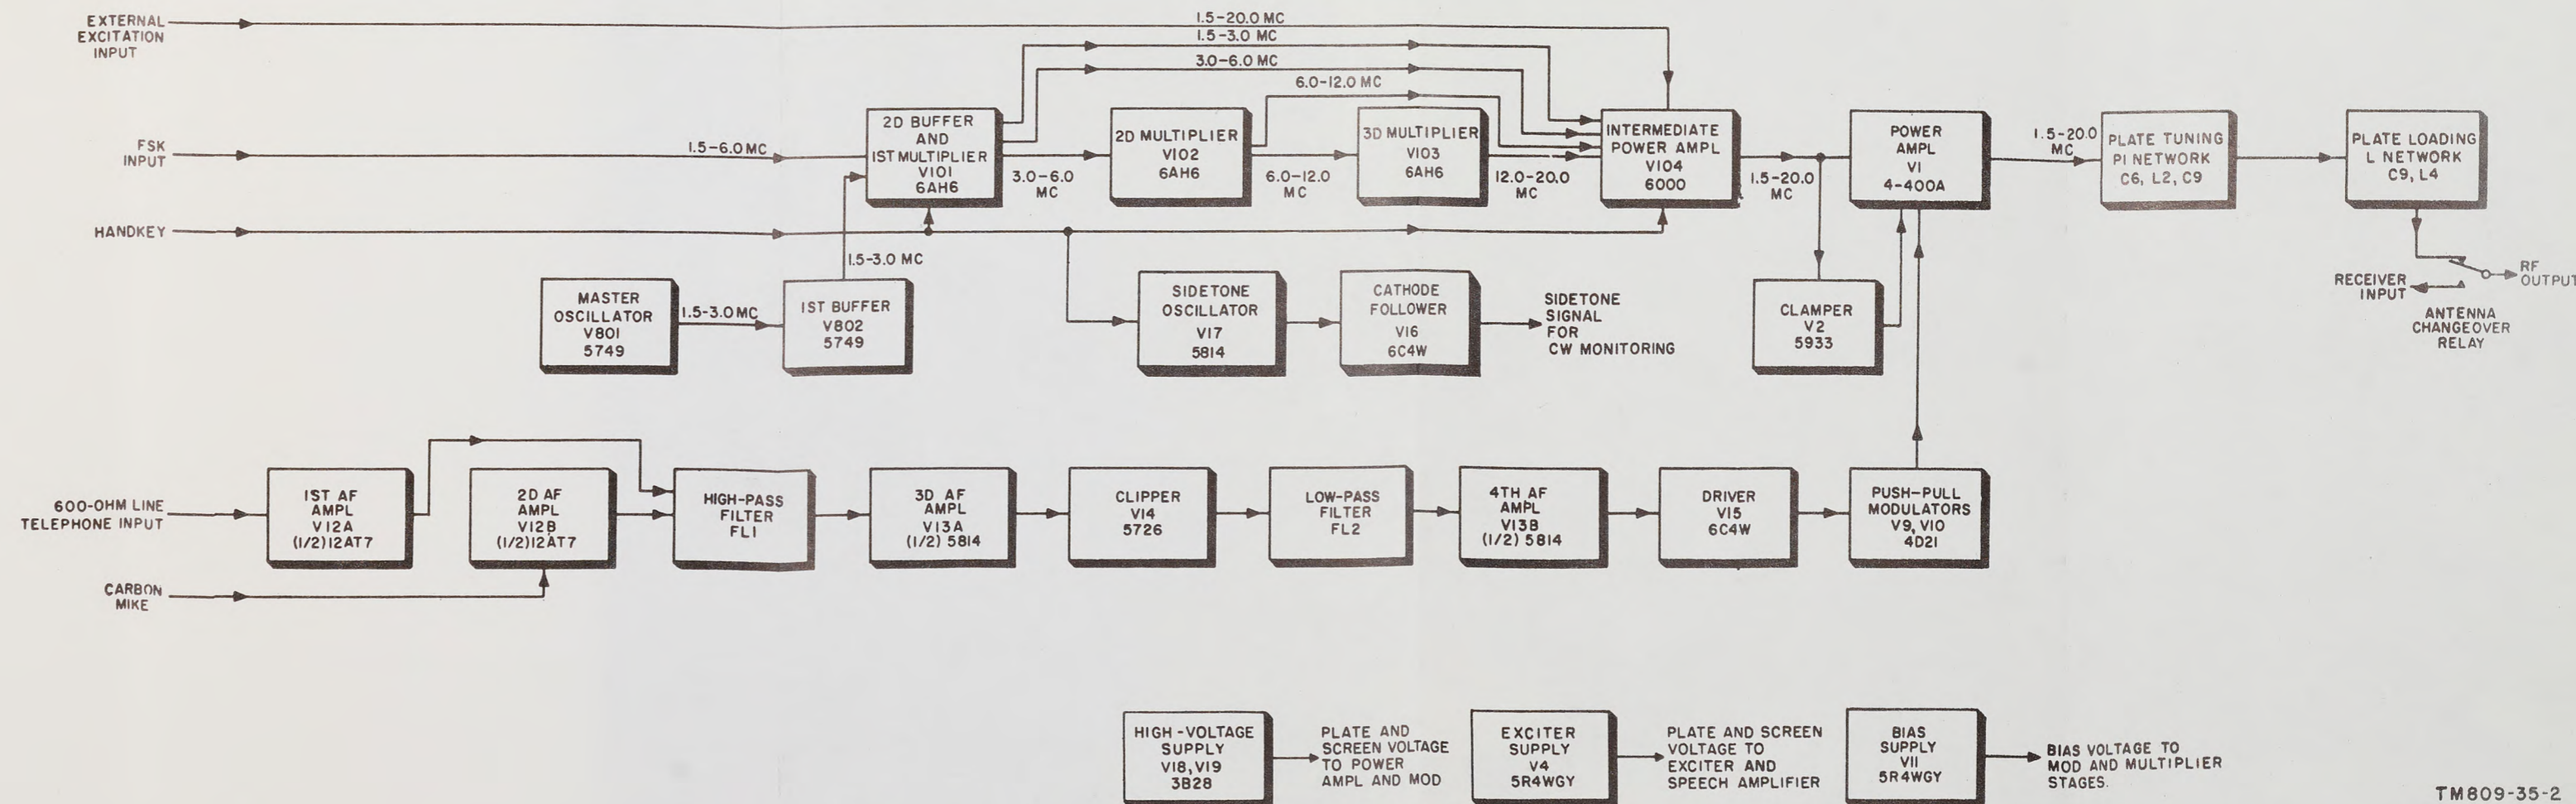
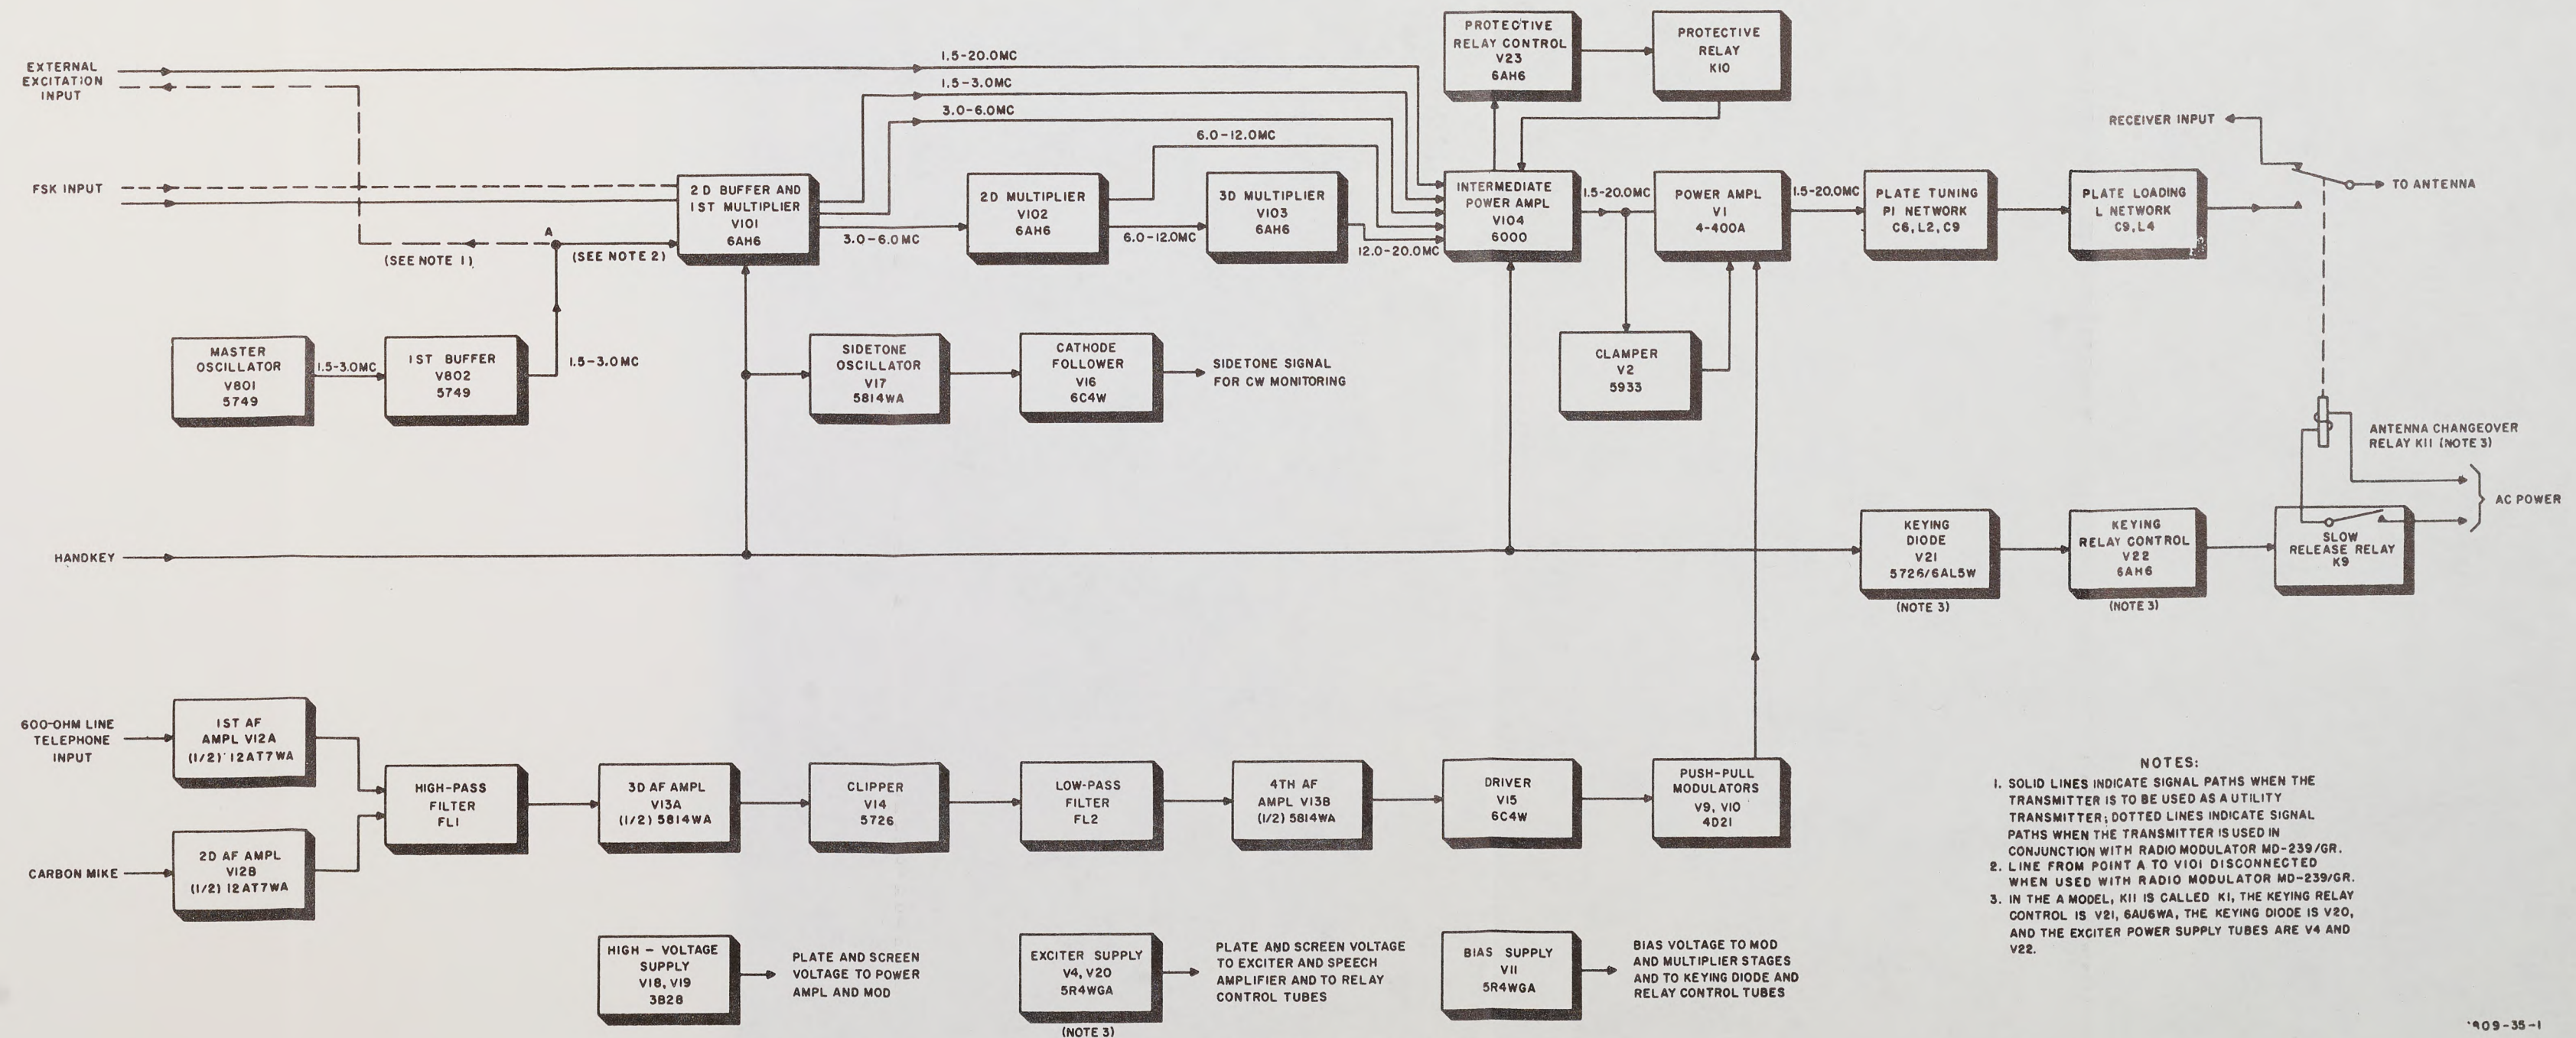

Figure 1. Basic model transmitter, block diagram.
Figure 2. Lettered model transmitters, block diagram.
(figs. 1 and 2)
a. The master oscillator (mo) and first buffer amplifier use two type 5749 tubes, V801 and V802, in circuits which, in the basic and A models, are operative for CW or AM operation only. In the B and C models, these stages are operative in all modes of operation except EXT EXC. Oscillator tuning is ganged with the multiplier stages so that the entire frequency range of 1.5 to 20.0 mc can be covered in four bands by a single control. The output of V801 is fed through a capacitor to the grid of first buffer tube V802. First buffer V802 is an untuned amplifier used to isolate load effects of the succeeding stages on the mo to prevent oscillator drift. In the basic model (fig. 1), the output of V802 is fed to the grid of second buffer and first multiplier tube V101 by a coaxial cable. In the lettered models, by internal recabing (fig. 5, TM 11-809-20), the output of V802 can be applied to Radio Modulator MD-239/GR. This change in signal paths is indicated by the dotted lines in figure 2.
(1) Tubes used for CW and AM operation of the basic and A models and for CW, AM, FSK, and FSK-AM operation of the B and C models are as follows:
f. The equipment furnishes all the direct-current (dc) voltages required for the five types of operation from two low-voltage supplies and one high-voltage supply when 115 volts are available. One low-voltage supply is the exciter supply and the other is the bias supply. The high voltage supply uses two type 3B28 tubes, V18 and V19. Figures 1 and 2 list the stages operated from each power supply.
b. First buffer V802 is an untuned resistance-capacitance coupled amplifier. Resistor R804 is the grid leak resistor, R805 is the screen dropping resistor, and C808 is the screen RF bypass capacitor. The output developed across plate load resistor R806 is coupled through capacitor C809 and fed to the multiplier strip or an external excitation input (fig. 2) through a coaxial cable.